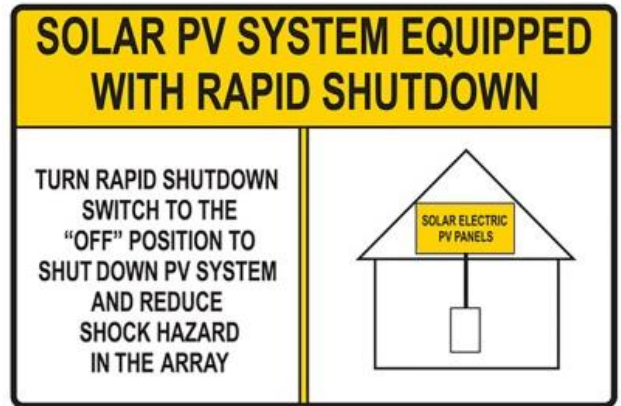

Figure 7.
- ❑ **Rapid Shutdown.** Buildings with PV systems shall have a permanent label, as shown in *Figure 7*, located at each service equipment location to which the PV systems are connected or at an approved readily visible location and shall indicate the location of rapid shutdown initiation devices.